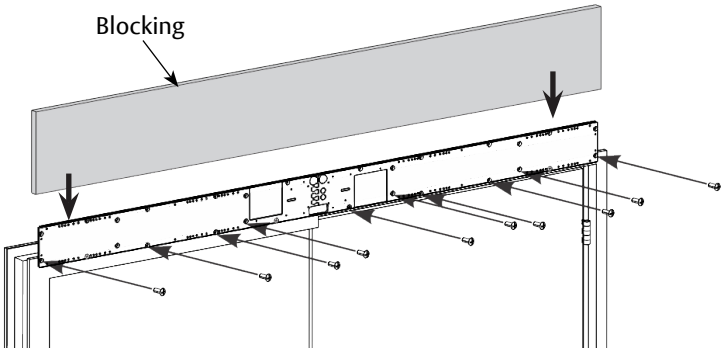

Figure 7
1. Secure backplates to frame using eleven (11): 1/4-20 x 5/8" machine screws or 1/4 x 1-1/2" self-drilling screws from screw packs in Boxes 1 and 2 (Figure 7).
NOTE: It is important to properly secure top edge of backplate. Use of blocking (supplied by others) or shims (provided) to fill gap between backplate and wall above header is **HIGHLY** recommended. Material must comply with local codes. Failure to properly secure top of backplate could result in operator being allowed to 'rock' during operation. This could result in damage to operator and diminish operator function. (Figure 7)